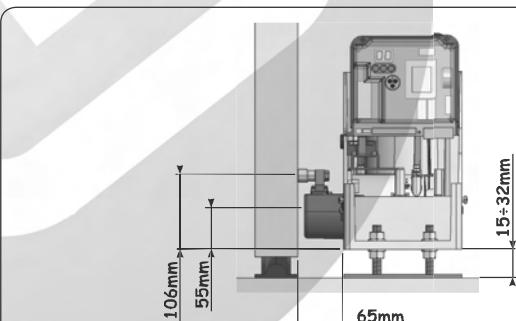

Fig. 10
- Adjust the height of the feet and the distance from the gate - refer to Fig. 10.